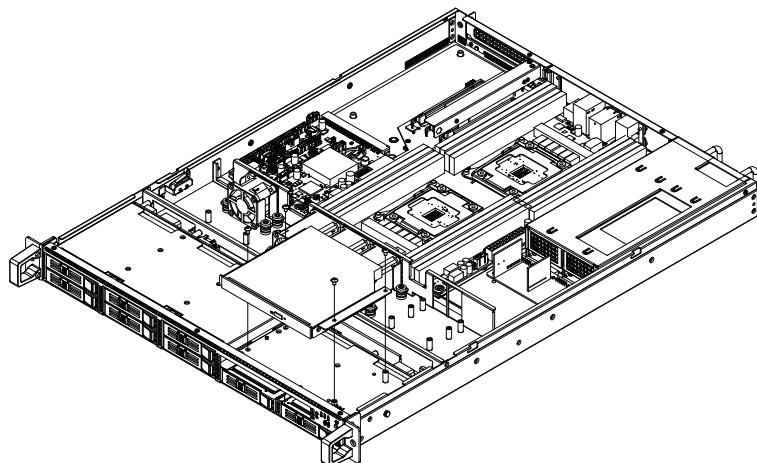

Figure 2.8 Installing ODD Module/ 安裝 ODD 模块 / 安裝 ODD 模塊
1. To install the slim ODD module, please release the screws on top of slim ODD brackets. See Figure 2.8.